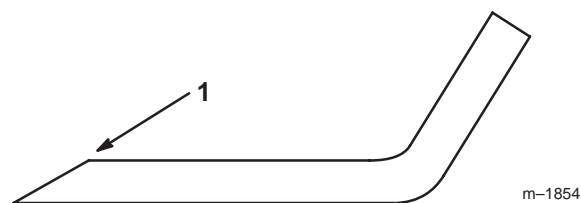

Figure 44
1. Use a file to sharpen the cutting edge at both ends of the blade (Fig. 44). Maintain the original angle. The blade retains its balance if the same amount of material is removed from both cutting edges.